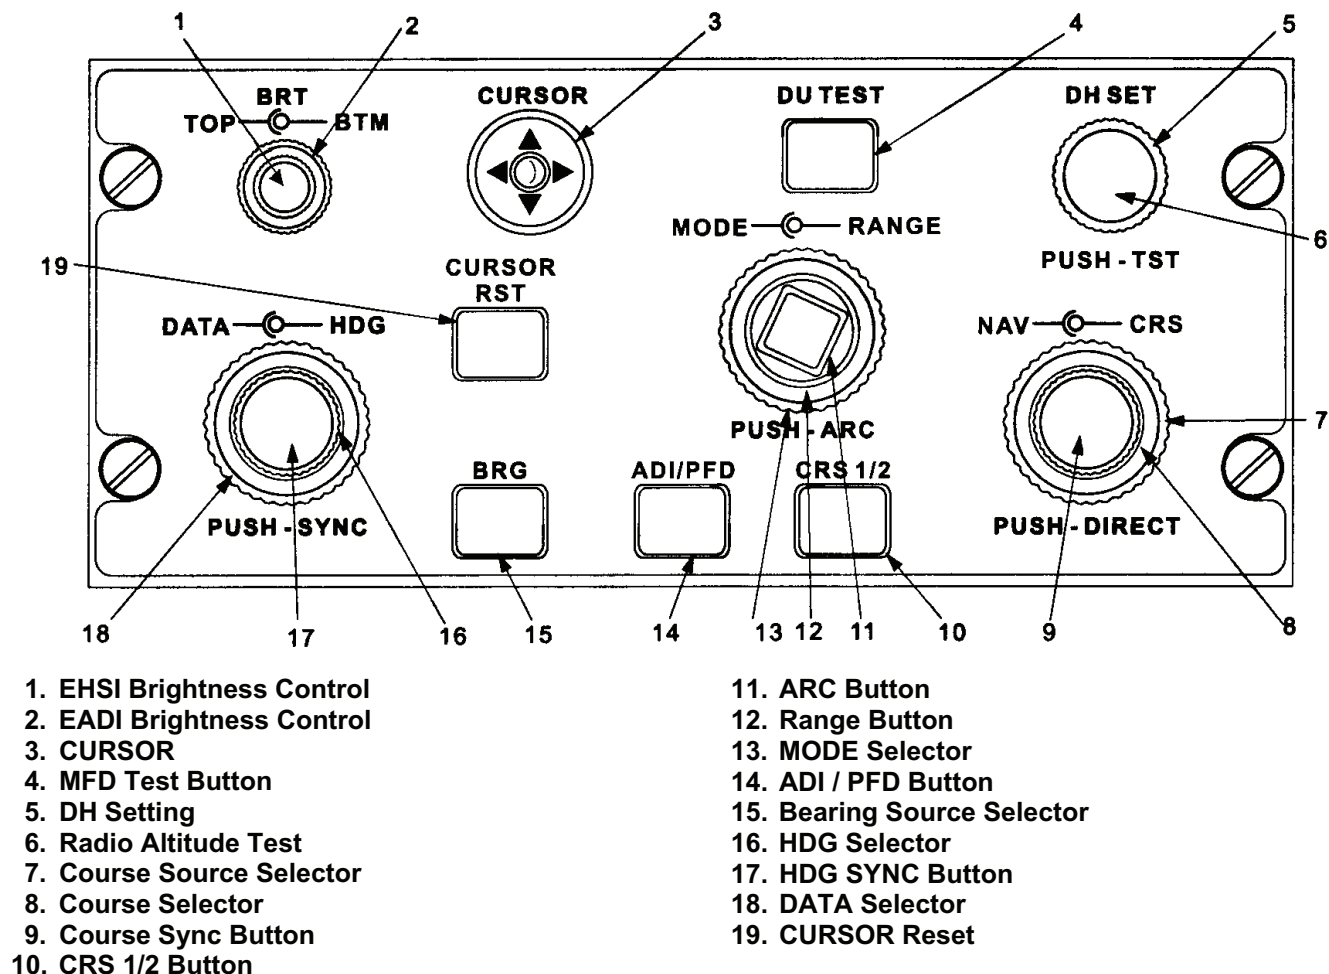

Figure 3B-3. Multi-Functional Display Control Panel
(1) *MFD Control Panel*. The MFD Control Panel provides integrated display management via the controls shown in Figure 3B-3. Unless otherwise noted the pilot's control panel drives the pilot's displays, and the copilot's control panel drives the copilot's displays. The pilot can select PFD on the display control panel when in the reversionary mode. This makes the bottom display a PFD without some of the functions.
(2) *Display Control Panel Controls and Functions*. Listed below are the controls found on the Control Panel and their corresponding functions. Refer to Figure 3B-3.